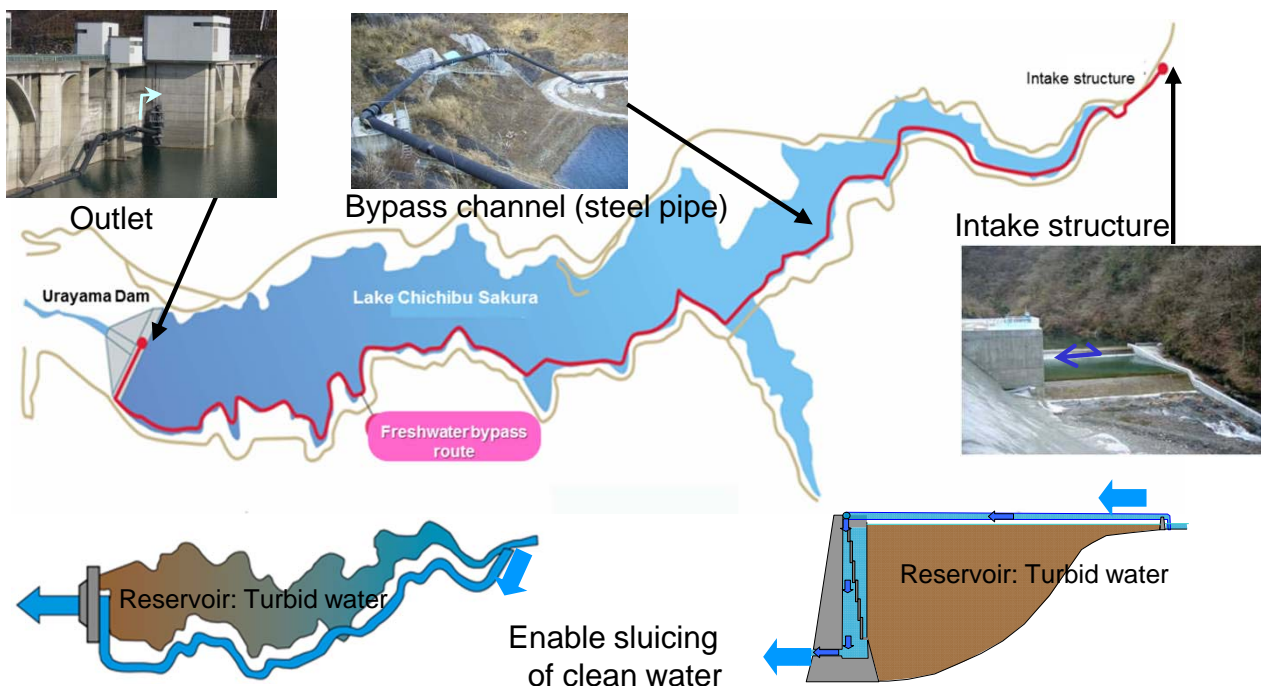

Fig.6-2 Urayama Dam
- Urayama Dam in Saitama Pref.(Fig.6-2)